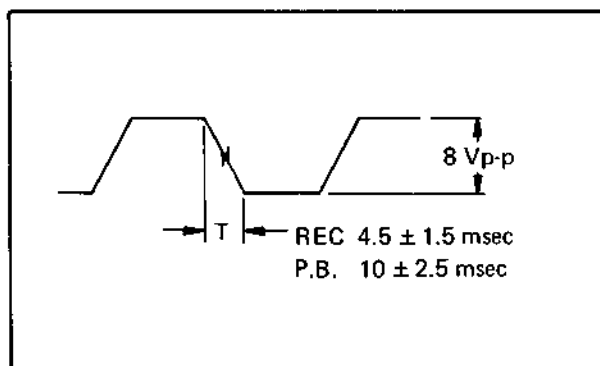

Fig. 6-18 Drum sampling waveform
2. Connect the oscilloscope to TP-9 (DRUM SAMPLING) on the servo circuit and verify the waveform during recording and playback as shown in Fig. 6-18.